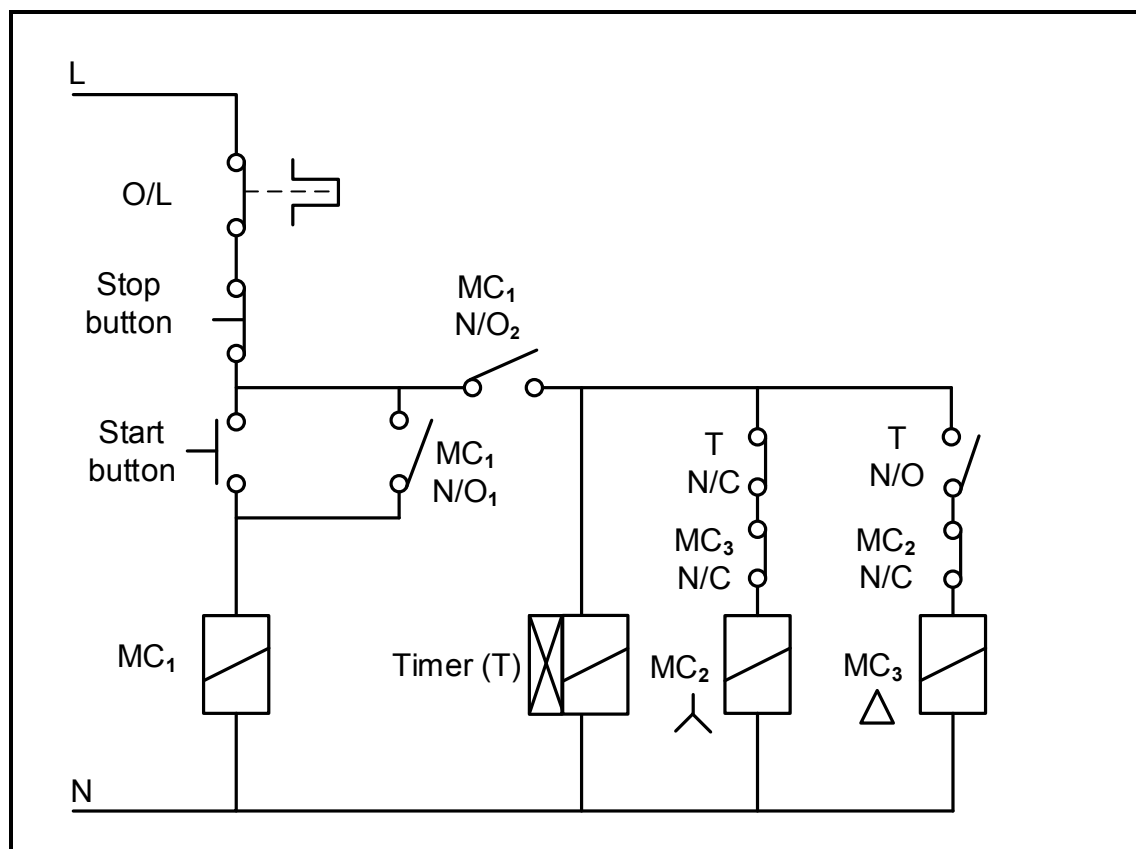

FIGURE 6.10: CONTROL CIRCUIT
6.10 Refer to FIGURE 6.10 below and answer the questions that follow.
- 6.10.1 Identify the control circuit in FIGURE 6.10. (1)
- 6.10.2 Draw a ladder logic diagram that executes the same function as the one in FIGURE 6.10. (13)